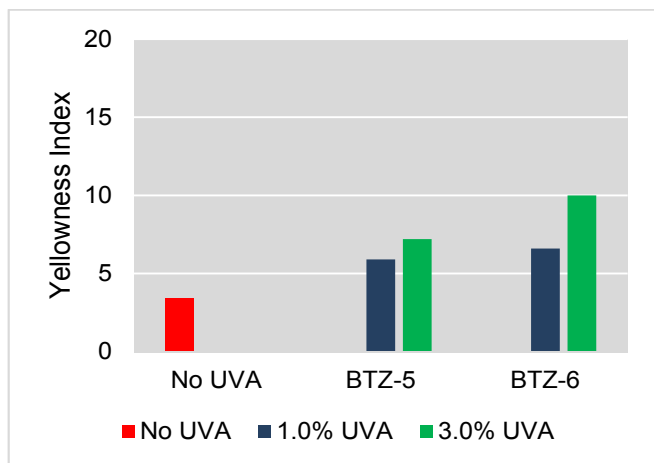

Figure 6. ASTM E313:84 Yellowness Index for Benzotriazoles
The yellowness index (YI) for samples containing BTZ-5 and BTZ-6 are shown in Figure 6. The YI value for polycarbonate without absorber was 3.4, and increased to 5.9 for BTZ-5 and 6.6 for BTZ-6 at concentrations of 1.0%. Increasing the concentration of the UV absorber to 3.0% increased the yellowness to 7.2 for BTZ-5, and 10.0 for BTZ-6.